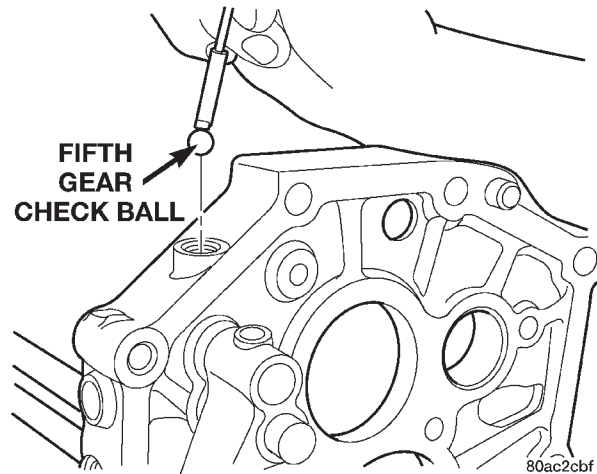

Fig. 68 Remove Fifth Gear Check Ball
- (24) Remove fifth gear check ball (Fig. 68) and interlock pin.